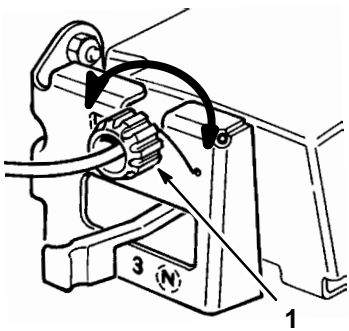

Figure 22
- ADJUSTMENT (Fig. 22)—Rotate control knob clockwise 1/2 turn if mower does not self-propel. If mower creeps forward, rotate knob 1/2 turn counterclockwise to loosen belt.